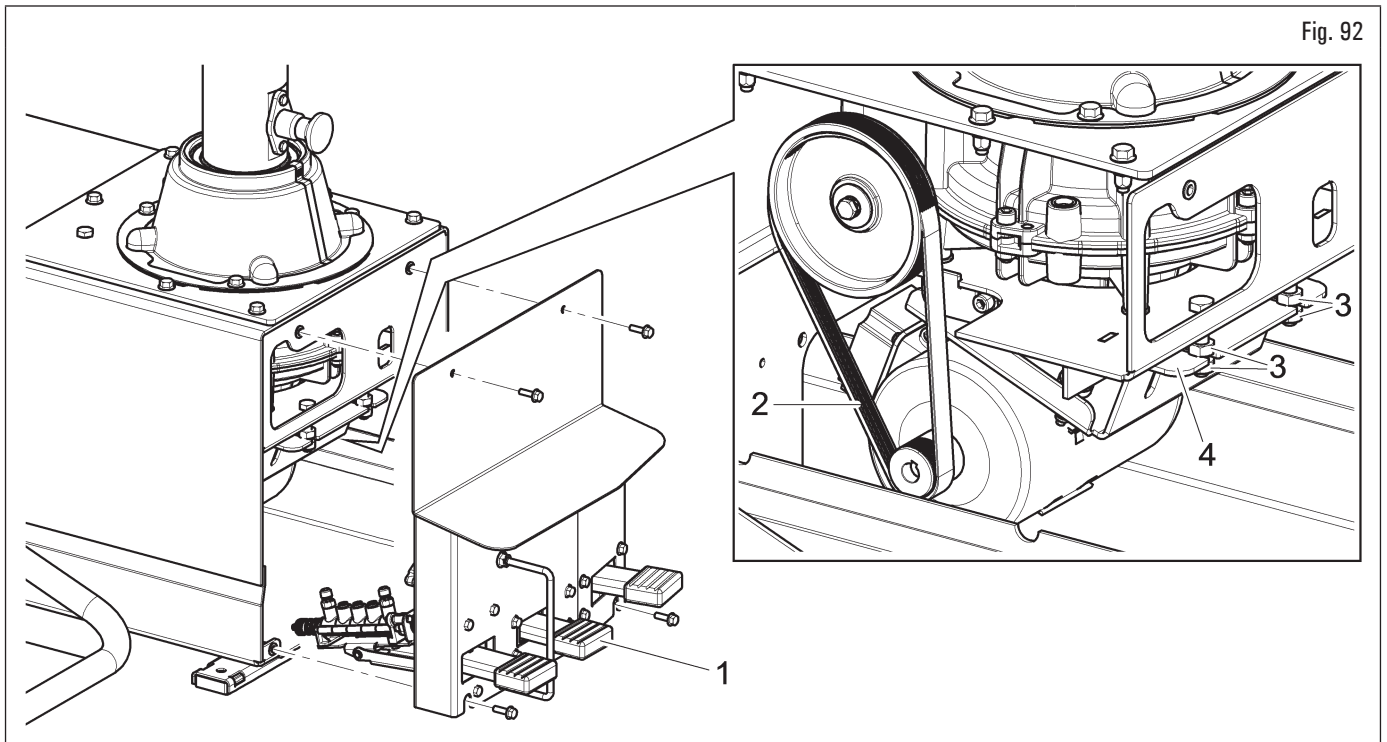

Fig. 92
- disassemble the pedal assembly (Fig. 92 ref. 1) by moving it away from the frame;
- tension up the belt (Fig. 92 ref. 2) turning the bolts provided (Fig. 92 ref. 3) holding the support (Fig. 92 ref. 4) of the motor;
- replace the belt (Fig. 92 ref. 2) if worn out using genuine parts;